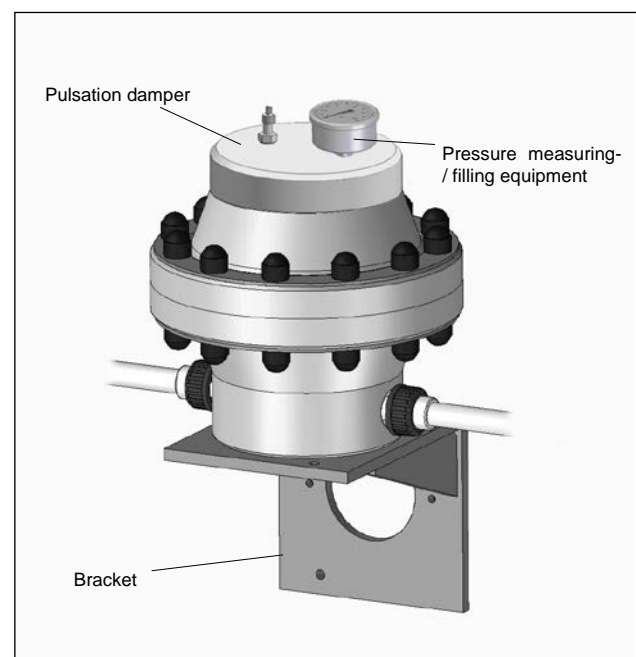

Fig. 07 Pressure measuring- and filling device
- Filling device or pressure measuring/filling device must be easy to overview and operate (see Fig. 07).